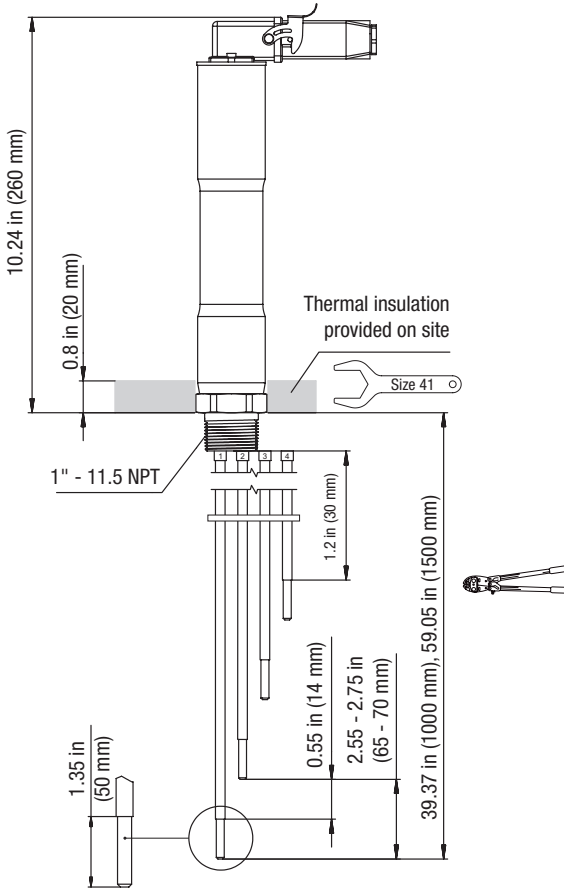

Fig. 3
3. Strip off 1.95 in (50 mm) of the PTFE insulation from the lower end of the electrode tip. Make sure that the remaining insulation measures at least 1.2 in (30 mm), measured from the lower edge of the screw thread, see **Fig. 3**.